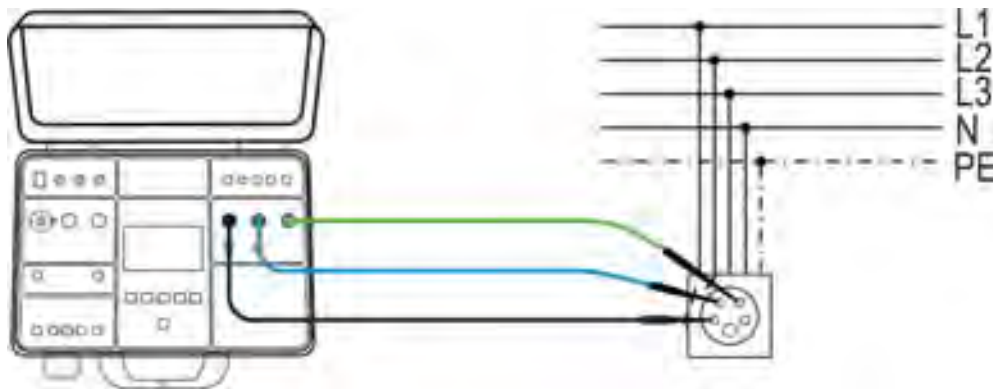

Fig. 66 : Connection of test leads in PHASE SEQUENCE measurement
2. Connect the test leads to tested socket/wiring according to the Fig. 66